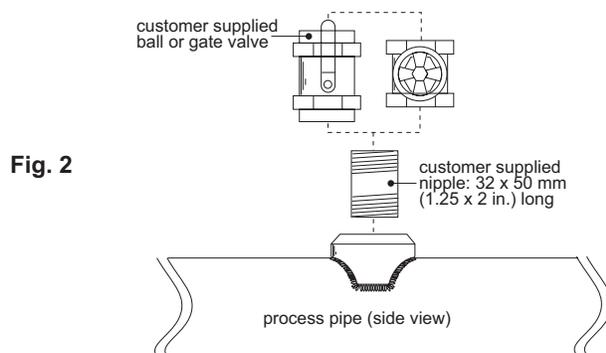

Fig. 2
B. Install the pipe nipple and isolation valve (ball or gate valve) onto the external pipe fitting using pipe sealant on the threads. (Fig. 2)